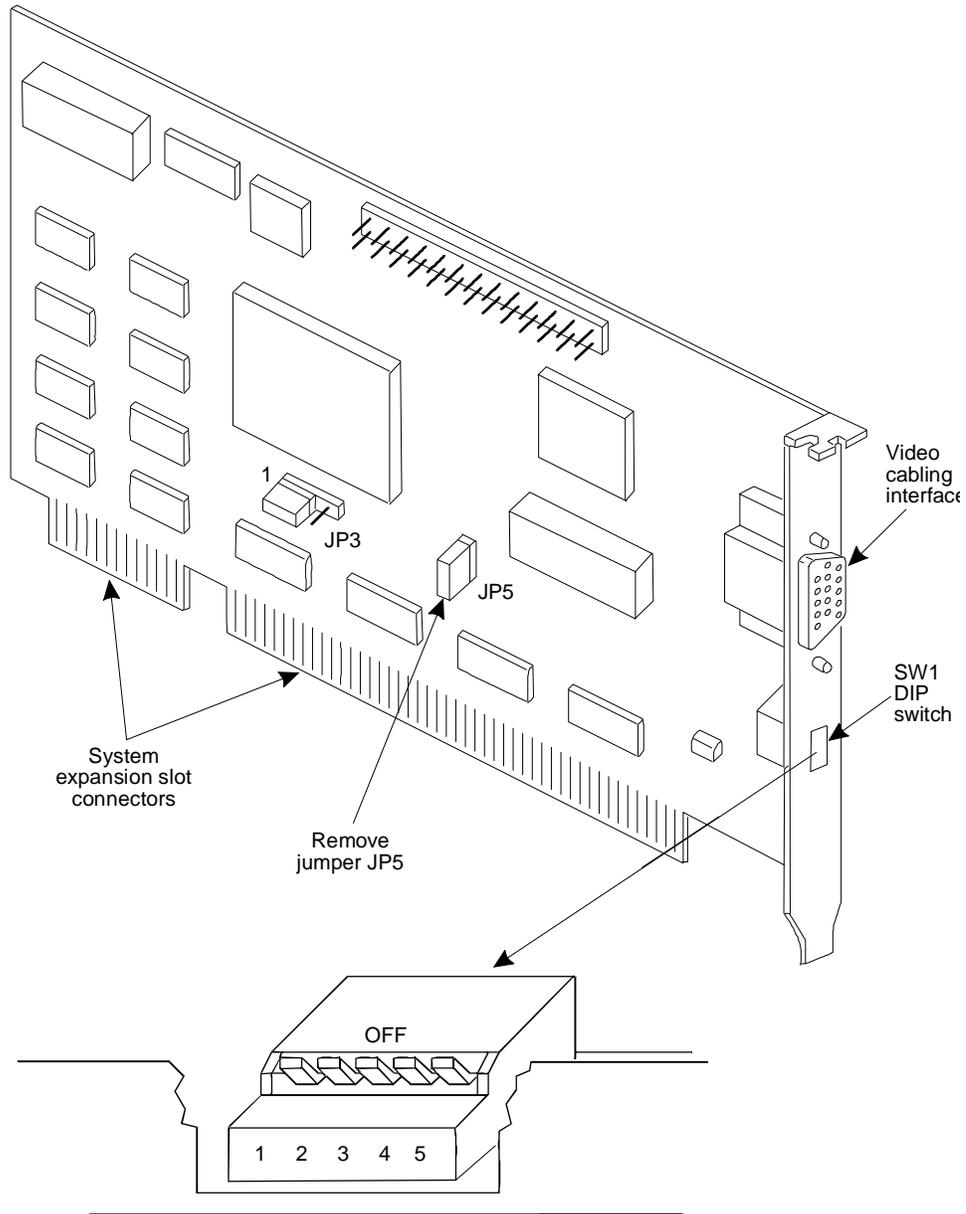

Figure 9-10. Video Controller Card, Model WDXLR831124
The MAP/100C accommodates a Video Controller circuit card, model WDXLR831124 (Figure 9-10).
1. Position the circuit card in front of you with the gold fingers pointing down as shown in Figure 9-10.
3. Set all switches to the OFF position, as shown in Figure 9-10. Use the point of a pen or similar object (see the Caution statement below) to set the switches.
1. Locate Jumpers JP5 and JP3 on the circuit card (Figure 9-10).
In addition, you must also attach the monitor's cable to the video cabling interface port on the Video Controller circuit card. Figure 9-10 shows the location of that interface on the WDXLR831124 Video Controller circuit card.